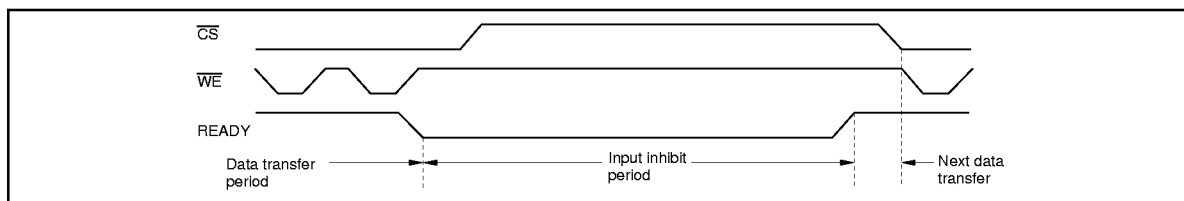

Figure 14 $\overline{READY}$ Output Timing (When It Is Always Available)
- a. READY is always available (Figure 14).